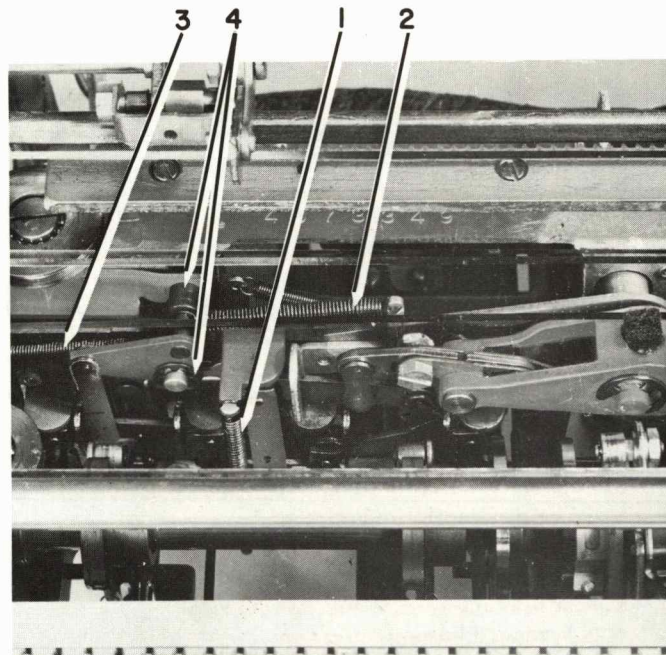

FIGURE 25. Tilt Selection Differential Removal
5. Remove the positive bail spring (#1, Figure 25).
6. Remove the tilt-differential spring (#2, Figure 25).
7. Remove the rotate-arm spring (#3, Figure 25).
8. Remove the two C-clips and remove the tilt-differential assembly (#4, Figure 25).